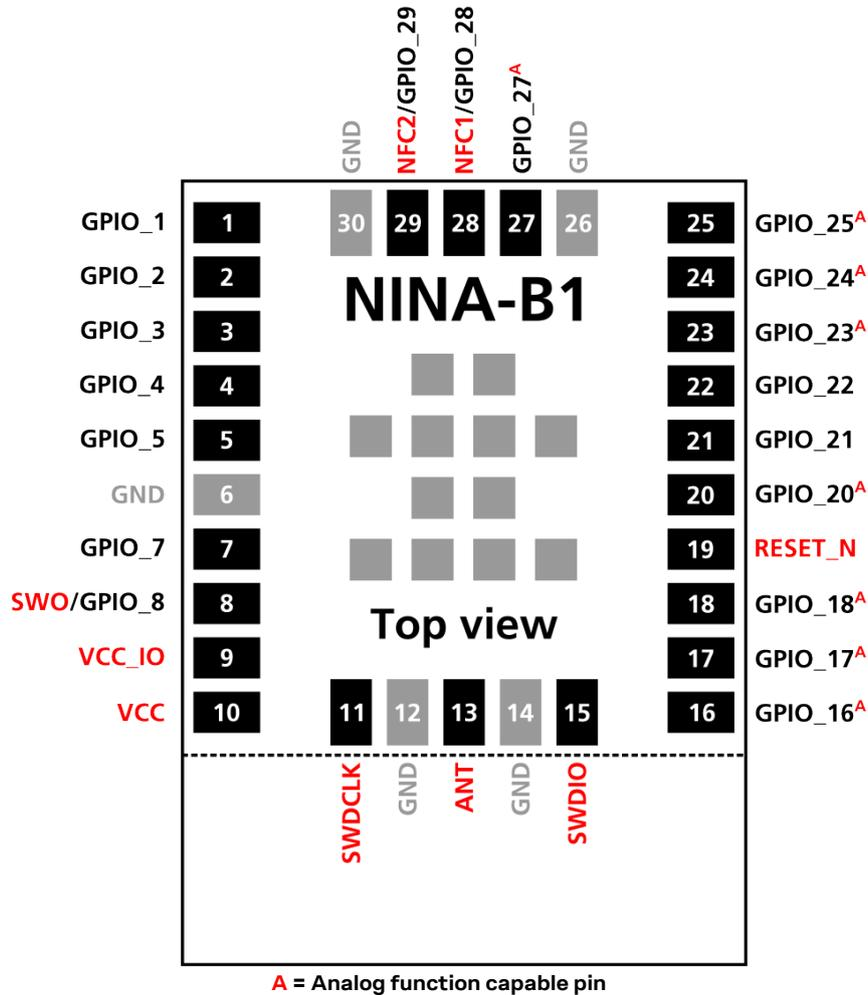

Figure 3: NINA-B1 series pin assignment (top view)
The pin-out described in Figure 3 below is an example pin-out that shows the module in an unconfigured state. Alternatively, if you use the u-connectXpress software, refer to the pin-out in section 3.2.
The grey pins in the center of the modules are GND pins. The outline of NINA-B111 ends at the dotted line as shown in Figure 3, where the antenna area of NINA-B112 begins.
-  All digital or analog functions described in this data sheet may be freely assigned to any GPIO pin. Analog functions are limited to analog capable pins. Signals marked **red** in Figure 3 are not freely assignable but locked to a specific pin.